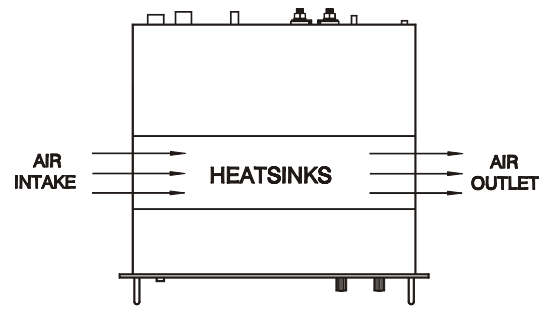

fig. 4 - 15
- The internal construction of the power supply is such that no dust will reach the sensitive control circuitry, only the heat sinks in a tunnel will be cooled by forced air (see fig. 4 - 15).